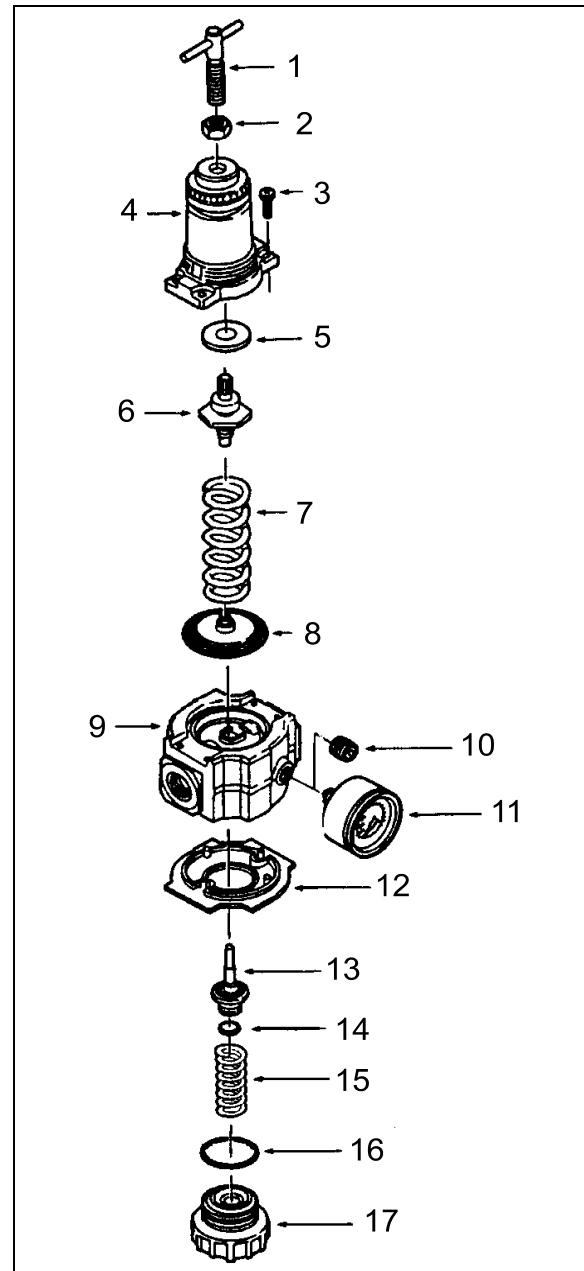

FIGURE 46: AIR PRESSURE REGULATOR
1. Before turning on system air pressure, release jam nut (2, Fig. 46) then turn regulator adjustment handle counterclockwise until the load is removed from the regulating spring.
5. Tighten jam nut (2, Fig. 46) to lock pressure setting.
1. Shut off inlet pressure and reduce pressure in inlet and outlet lines to zero. Turn regulator adjustment handle (1, Fig. 46) counterclockwise until all load is removed from regulating spring. Regulator can be disassembled without removal from air line.
1. Lubricate O-ring (14 and 16, Fig. 46), valve stem (13), tip of adjusting screw (1), and the outer circumference and both sides of the thrust washer (8) with a light coat of good quality O-ring grease.